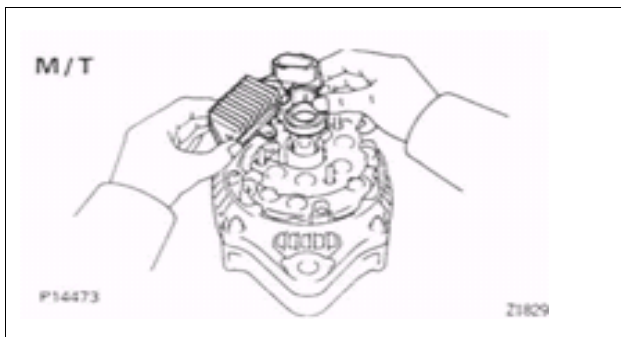

Figure 443
- Install the brush holder cover. (see Fig. 443 **Figure 443**)